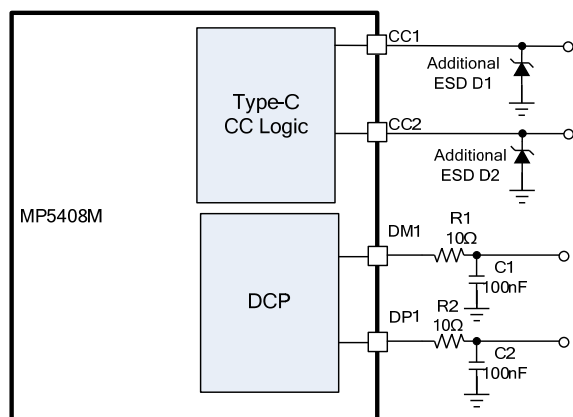

Figure 11: Recommended I/O Pins ESD Enhancing
Higher ESD levels should be considered for all USB I/O pins. The MP5408M features high ESD protection up to $\pm 8\text{kV}$ human body model on DP, DM, USB1, and USB2, and $\pm 5.5\text{kV}$ human body model on CC1 through CC4. The ESD structures can withstand high ESD both in normal operation and when the device is powered off. To further extend DP and DM's ESD level for covering complicated application environments, additional resistors and capacitors can be added (see Figure 11).
11) See Figure 11 for I/O pins' ESD protection enhancing details.